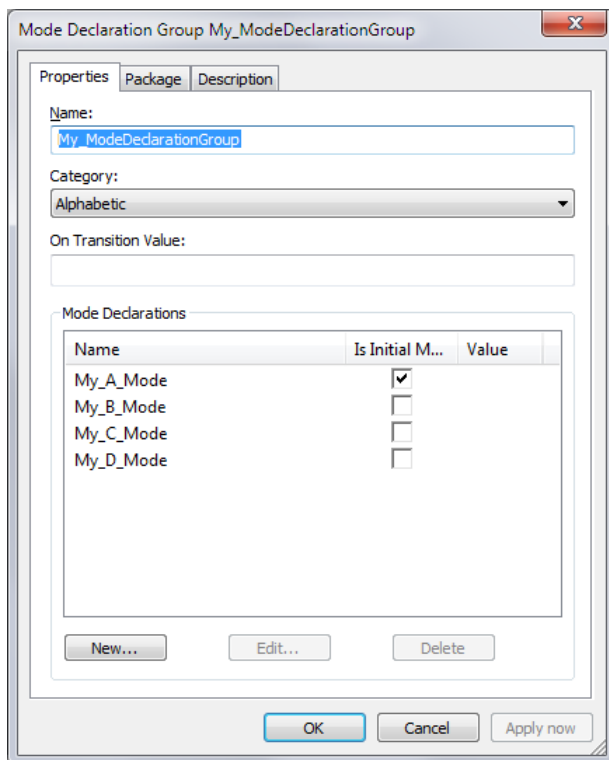

Figure 4-48 `My_ModeDeclarationGroup`
- ▶ The mode declaration group for the example will be `My_ModeDeclarationGroup` presented Figure 4-48.